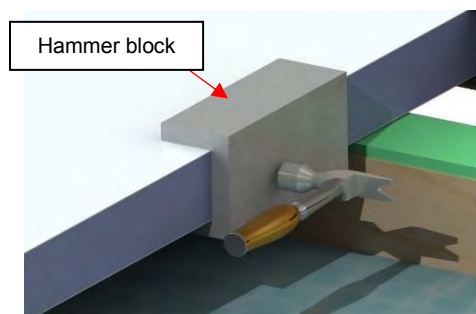
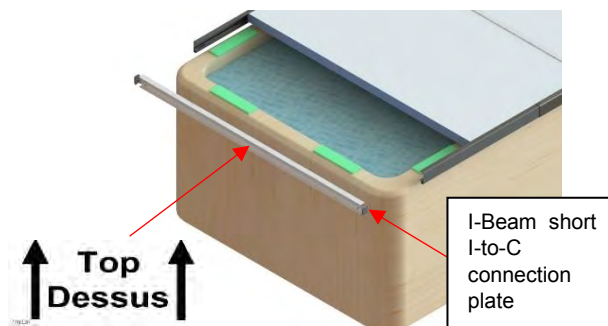

Figure 74
Figure 71
27) Use the hammer block to ensure the panel is fully engaged in the I-beam. Gently strike the **center** of the block and ensure the block is continuously in contact with the panel edge (Figure 71). Strike the hammer block on each side of the panel for a better fit of the panel (Figure 74).
- Ensure the hammer block is properly fitted to the foam panel before striking. Failure to use the hammer block properly, could break the lamination of the fiberglass panel (Figure 74).
28) Slide the I-Beam with the short I to C connection plates in the C-Channels with the bent portion pointing inwards (Figure 71).
30) Use the hammer block to ensure the panel is fully engaged in the I-beam. Gently strike the **center** of the block and ensure the block is continuously in contact with the panel edge. (Figure 74)